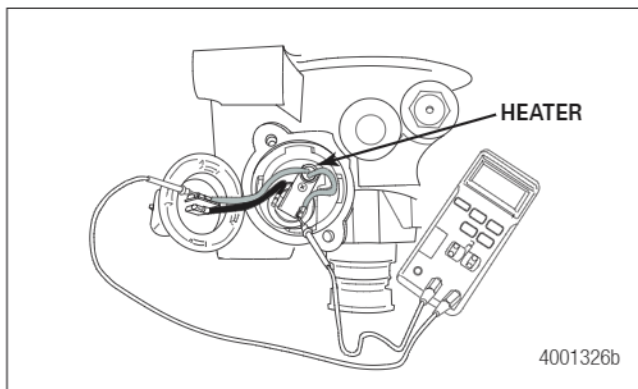

Figure 2.2
4. With wires connected and correctly secured, touch one probe to each heater element lead. Figure 2.2.